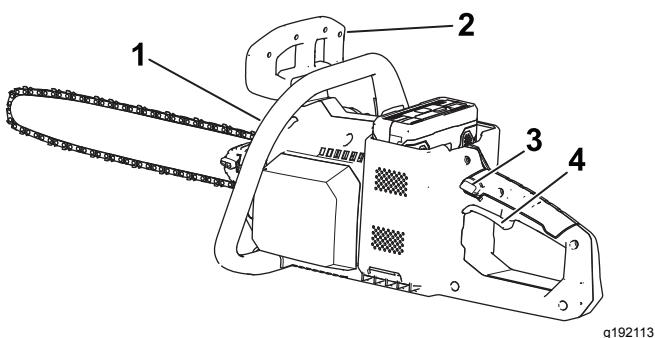

Figure 10
7. With 1 hand on the front handle and the other on the rear handle, press the trigger lock, then squeeze the trigger (Figure 10).